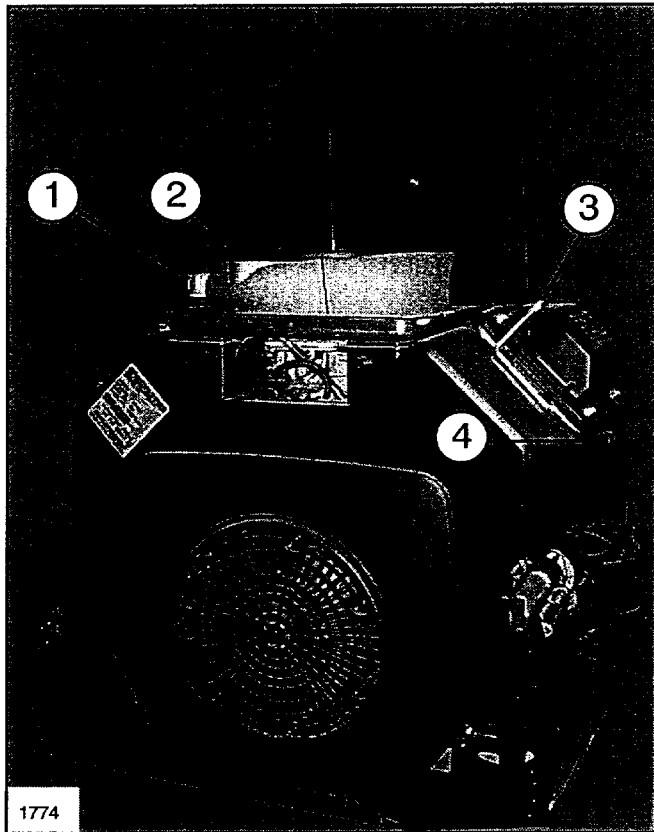
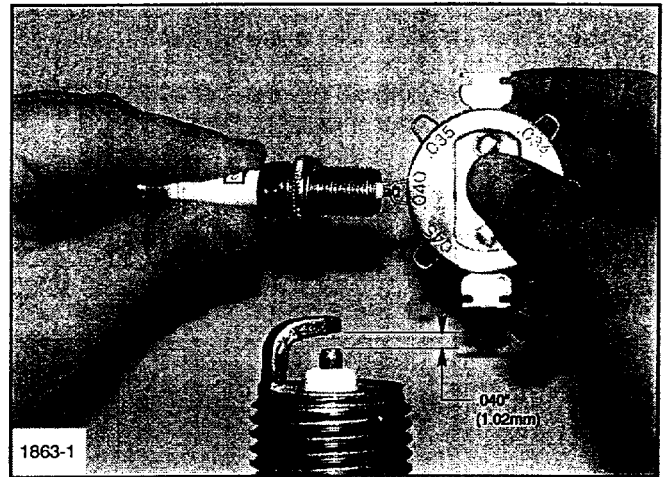

FIG. 18
FIG. 19
Every 100 hours of operation, remove the spark plug (See FIG. 18), check condition, and reset the gap (See FIG. 19) or replace with a new plug as necessary. Replace spark plugs after every 400 operating hours to assure proper engine performance. Use a Champion® type RC12YC (or equivalent), spark plug.
3. Check the gap using a wire feeler gauge. Adjust the gap to .040 in. (1.02mm) by carefully bending the ground electrode. (See FIG. 19).